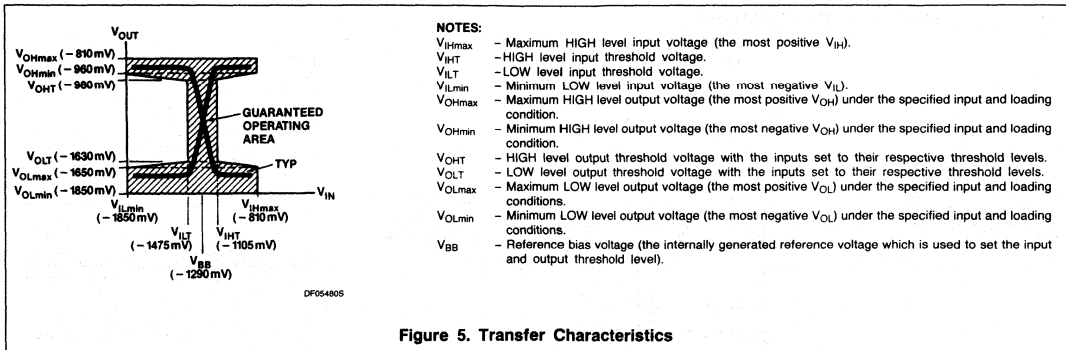

Figure 5. Transfer Characteristics
3. The specified limits shown in the DC Characteristics can be met only after thermal equilibrium has been established. Thermal equilibrium is established by applying power for at least 2 minutes while maintaining transverse air flow of 2.5 meters/s (500 linear feet/min) over the device either mounted in the test socket or on the printed circuit board. Test voltage values are given in the DC Operating Conditions and defined in Figure 5.